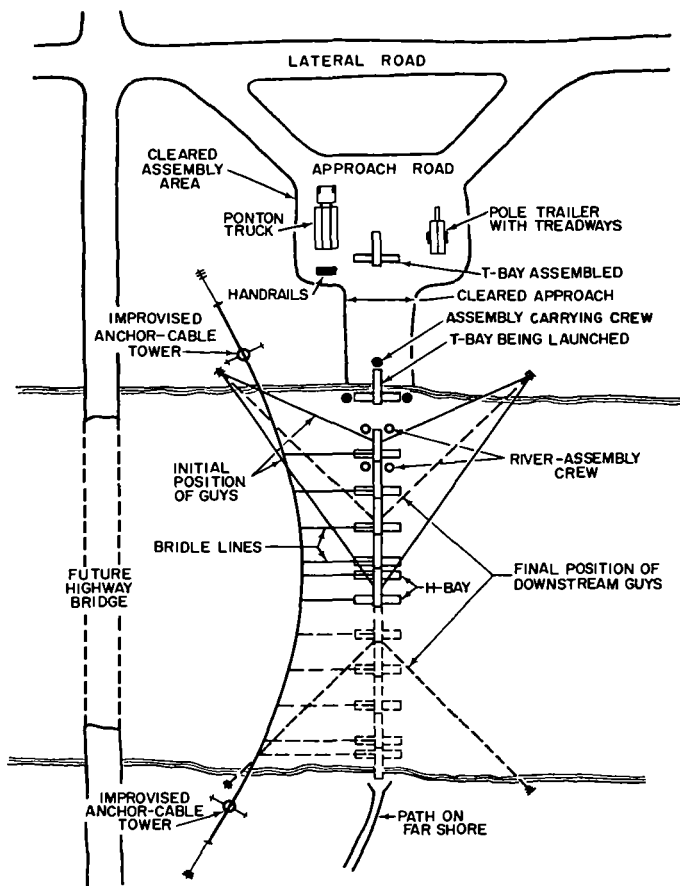

Figure 167. Schematic layout of near-shore assembly area for assembly by successive bays.
- (1) All require an anchor system.
- (2) All components are vehicle and air transportable and are designed for assembly by hand wherever possible.
- (3) The basic pneumatic float assemblies on the heavy tactical bridges are interchangeable.
- (4) Components can be assembled as rafts and used for ferrying operations.
- (5) Specific bridge units are organized and equipped to provide— transportation and maintenance for floating bridges; and also technical assistance in the assembly and construction of bridging.
c. Specific examples of floating bridge construction and assembly are graphically presented in figures 167 through 178.